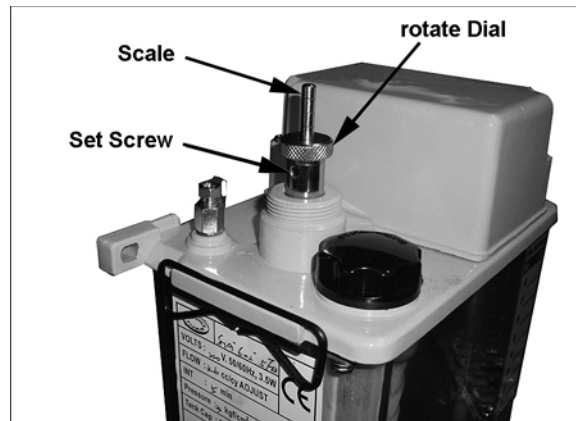

Figure 17
2. Loosen set screw (Figure 17) and rotate knurled dial clockwise to increase oil output; counter-clockwise to decrease oil output. The scale is in cubic centimeters.